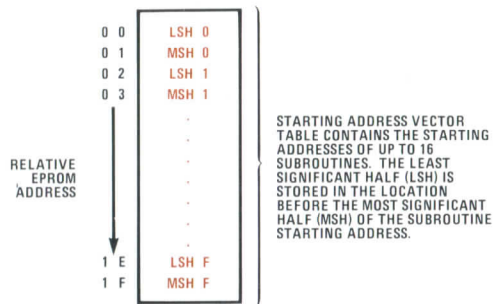

Fig. 19 Starting Address Vector Table
The EPROM/ROM relative addresses 00 through 1F contain the starting address of each subroutine. Before a subroutine can be selected the System Under Test CPU must be halted, and the appropriate routine must be selected by pressing the SUBR SELECT key and a hex key (0-F) of the keypad. Pressing the END/EXEC key loads the corresponding beginning addresses into the System Under Test CPU and starts program execution in the run with display mode. The starting address selected can be that of a subroutine located in the EPROM/ROM or the beginning address of a subroutine resident in the System Under Test memory. Figure 19 illustrates the organization of the starting address vector table.